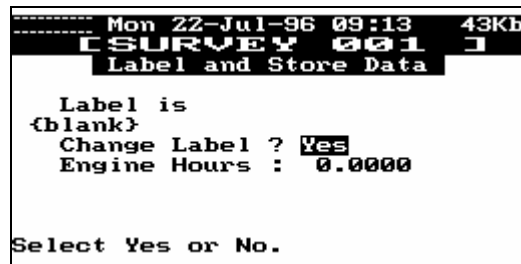

Figure 41
**3--Label and Store Data** After data is collected, this option allows you to attach a Label or name to it for reference, and to Store it under that name in the analyzer's memory. After pressing **[ENTER]**, the screen shown in figure 41, below, will be displayed.